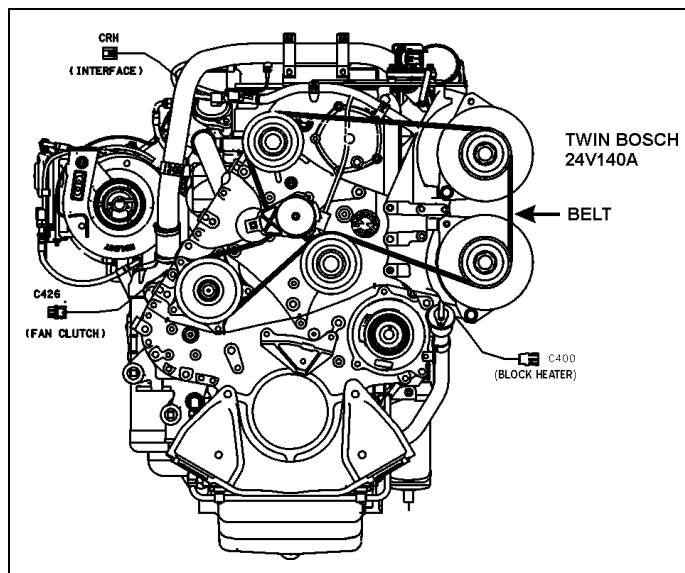
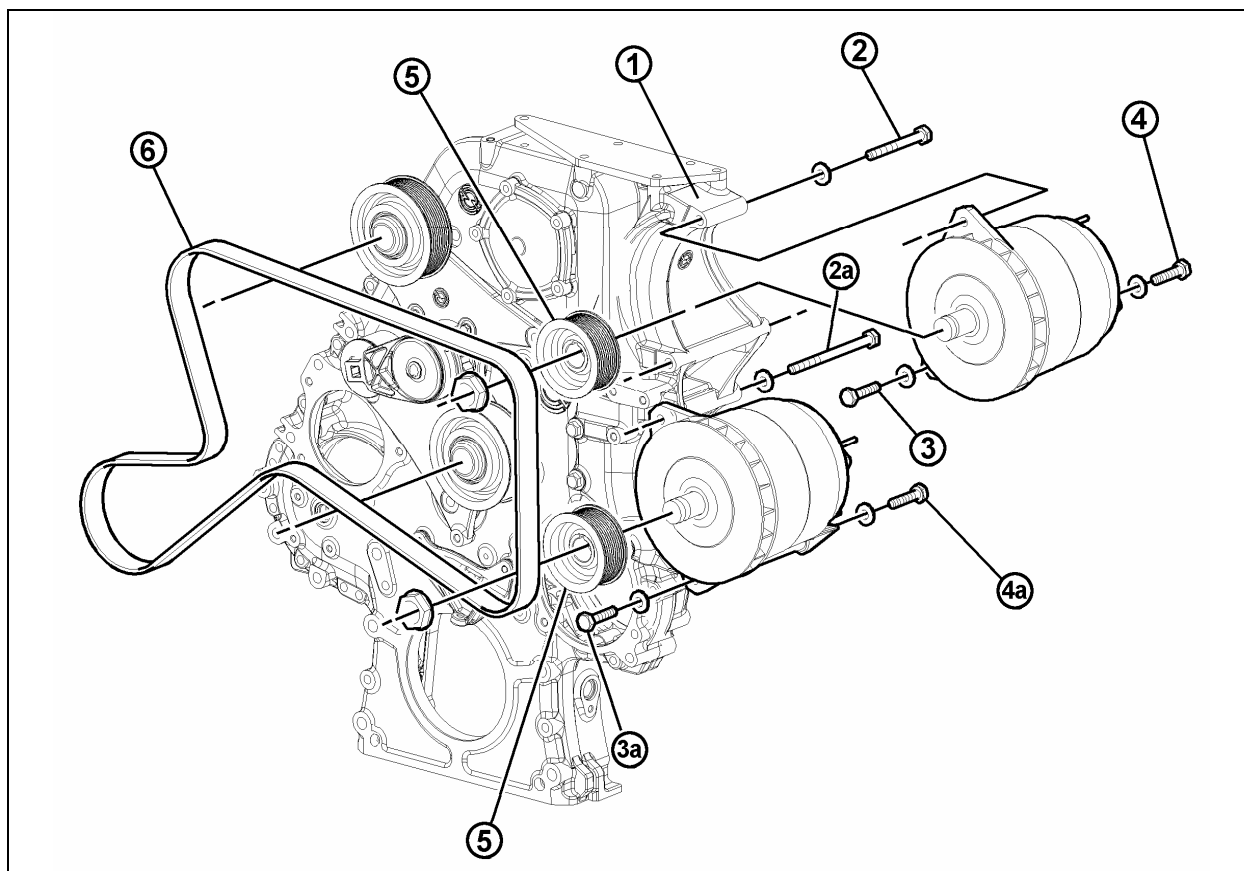

FIGURE 18: ALTERNATOR DRIVE BELT
FIGURE 19: TWIN BOSCH ALTERNATORS INSTALLATION (DDEC SERIES 60)
If the alternators needed to be removed, reinstall as follows. Refer to figure 18 for installation and to figure 19 for tightening specifications:
1. Install alternator mounting bracket (1, figure 19) to the gear case. Use the four flanged phosphor alloy bolts on the pulley end of the bracket and the flanged nuts at the transmission end of the bracket;
2. Bolt the upper alternator to the bracket using the 4 inch bolt at the top (2, fig 19) and two inch bolts at the lower mounting bosses (3 and 4, figure 19). Bolt the other alternator using the 6 inch bolt at the top (2a, fig 19) and two inch bolts at the lower mounting bosses (3a and 4a, figure 19);
3. On the drive shafts of both alternators, install key, pulley, spring washer and nut (5, figure 19);
6. Install alternators belt (6, figure 19).
1. Insert a ¾" socket drive into the automatic belt tensioner opening (Fig. 18).